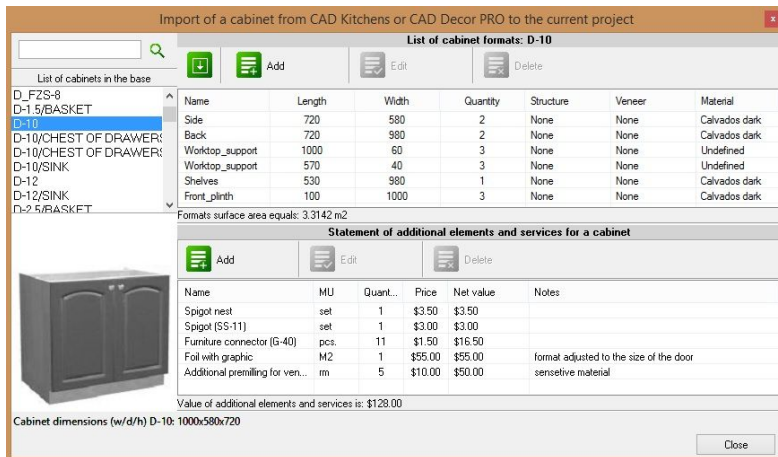

Fig. 116 – 'Import of a cabinet from CAD Kitchens or CAD Decor PRO to the current project' window
- select the **'Import a single cabinet'** button in the right function pane in the main window; the **'Import of a cabinet...'** window will open (Fig. 116), in which you can send component formats to the cut list;